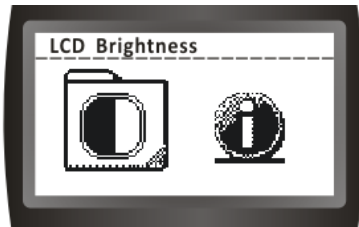

Figure 8
- 5、 Press  button, the screen will change to: "contrast adjust ion" (Figure 8)